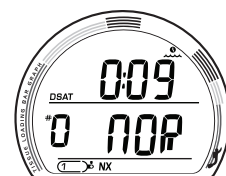

Fig. 7 - NORM SURF MAIN
**NORM/TECH SURF MAIN**, information includes (Fig. 7, 8):